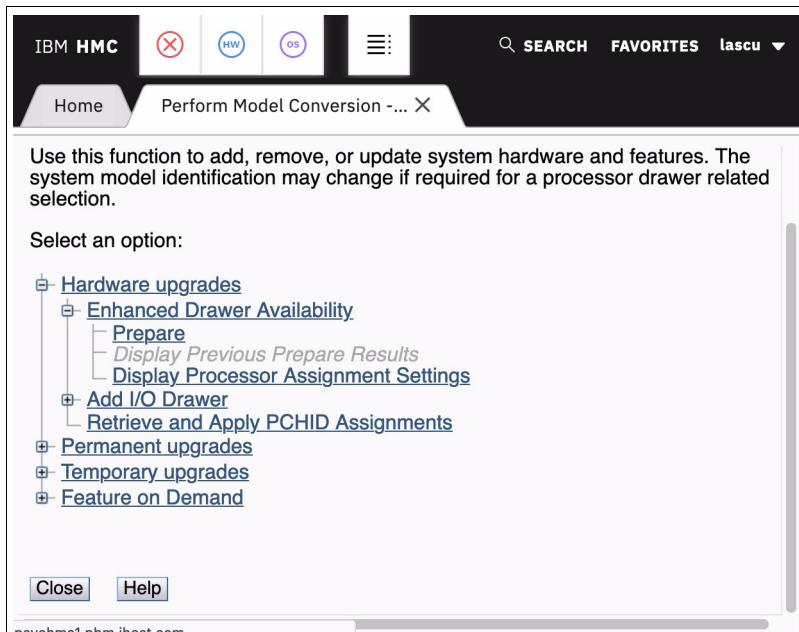

Figure 9-7 Clicking Prepare for Enhanced Drawer Availability option
For the EDA process, this phase is the preparation phase. It is started from the SE, directly or on the HMA, by using the Single object operation option on the Perform Model Conversion window from the CPC configuration task list, as shown in Figure 9-7.
The preparation step can be run without performing a drawer replacement. You can use it to dynamically adjust the operational configuration for drawer repair or replacement before IBM SSR activity. The Perform Model Conversion window in you click **Prepare for Enhanced Drawer Availability** is shown in Figure 9-7 on page 397.
5. Repeat the step that is shown in Figure 9-7 on page 397 to ensure that the required conditions are all satisfied.